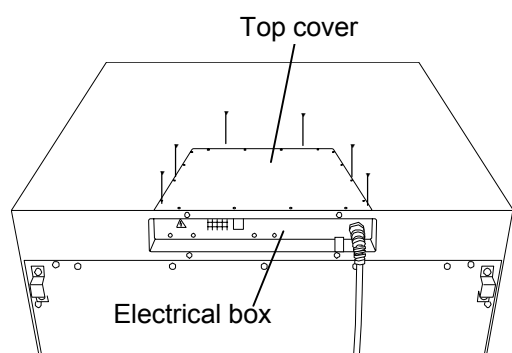

Fig. 1
2. Remove 6 screws fixing the top cover with a screw driver and remove the top cover. (Fig. 1)